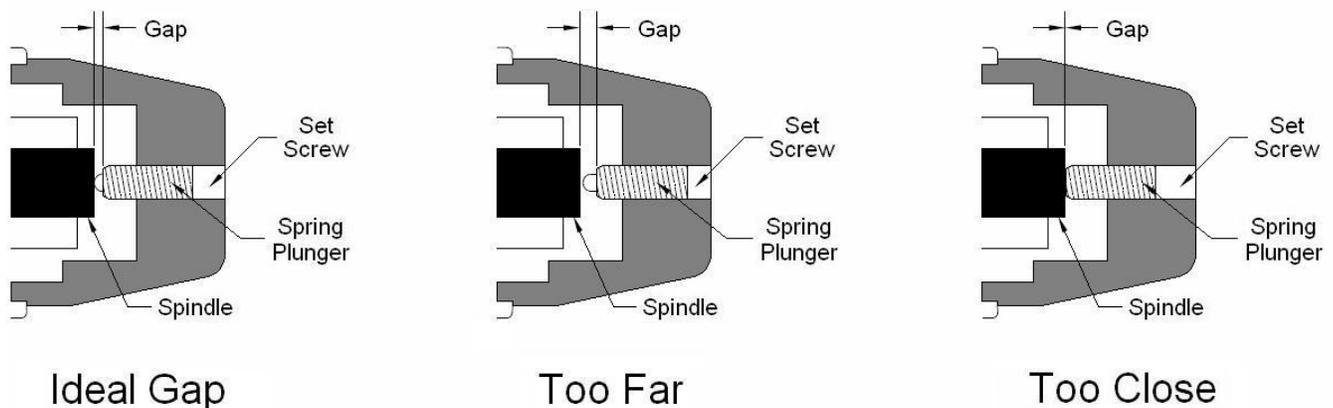

Figure 3.12
- 6) If the plunger appears to be in good working order, reinstall in the hub, and adjust until it bottoms against the spindle end. Rotate 1/2 turn backward to allow adequate clearance. Improper adjustment will result in premature failure (too little tolerance) or poor continuity (too much tolerance). See Figure 3.12 below to view proper clearance.